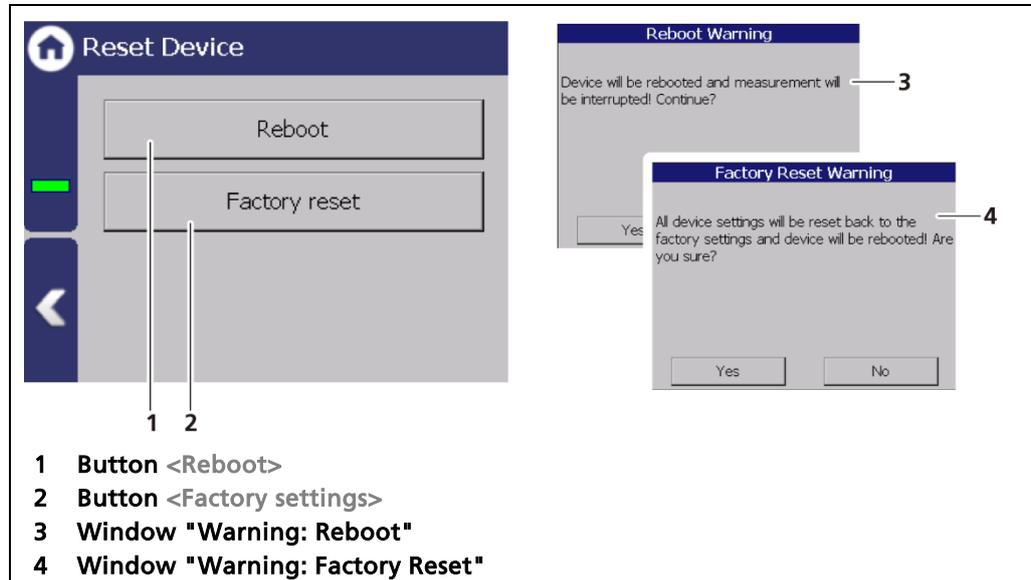

Fig. 57 Reset device
1. To restart the device, click the button <Reboot> (Fig. 57, item 1).
- ▶ A window with a warning "Reboot" (Fig. 57, item 3) opens.
1. To reset the evaluation unit to the factory settings, click the button <Factory reset> (Fig. 57, item 2).
- ▶ A window with the warning "Factory settings" (Fig. 57, item 4) opens.